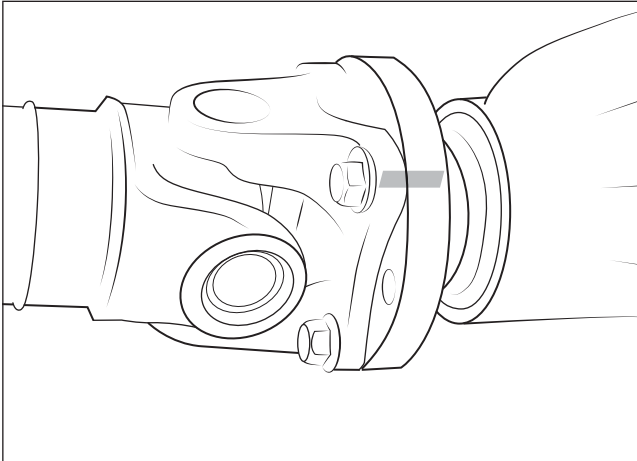

Figure 10
3. Disconnect the drive shaft. Make sure to mark both sides of the connection so you can properly align it when you reconnect it (fig. 10). Tie loose end of the drive shaft up so it will not hang down, failure to do so may result in damage to your drive shaft.